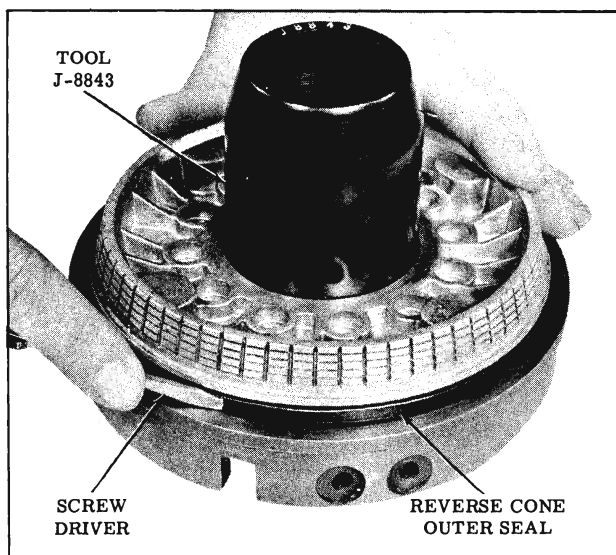

Fig. 3-257 Installing Outer Piston Seal
2. Install reverse piston inner seal protector J-8843 over oil delivery sleeve of case center support. (Fig. 3-257)
3. Install the reverse piston into the case center support guiding the outer piston seal into the support with a small screw driver. Piston will go on only two ways because of offset dowels. (Fig. 3-257)